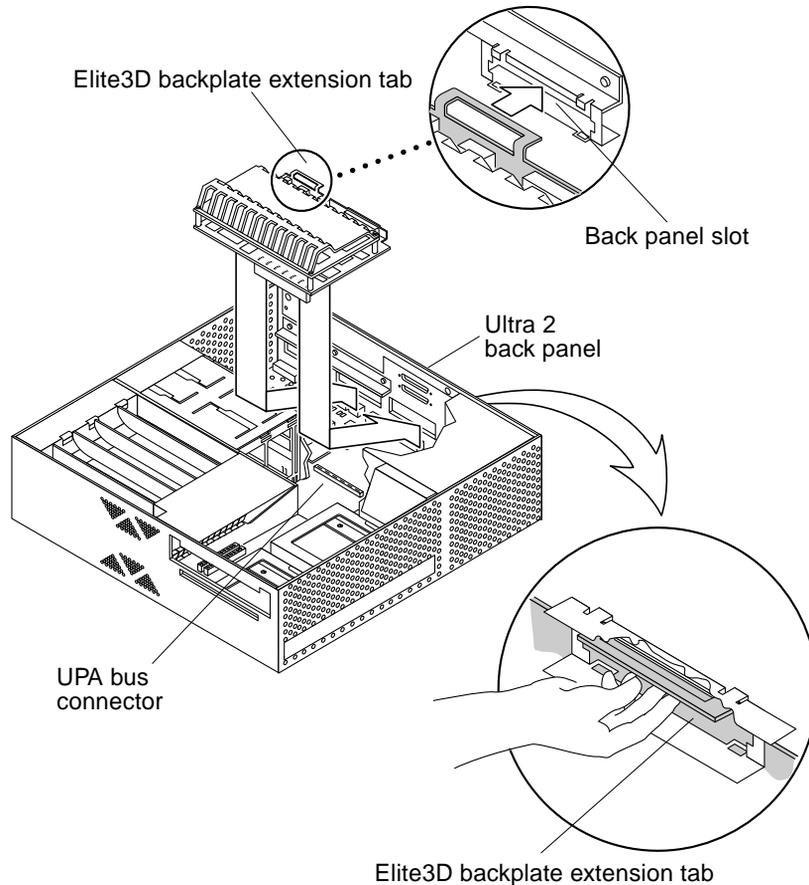

FIGURE 2 Installing Elite3D
6. Lower the Elite3D into the chassis (at an approximate 45-degree angle) with one hand. With your other hand, guide the Elite3D backplate extension tab through back panel slot 3 (FIGURE 2).
7. Pull up on the Elite3D backplate extension tab through the back panel slot (FIGURE 2).
8. While holding up the Elite3D backplate extension tab, lower the Elite3D over the UPA bus connector on the motherboard (FIGURE 2).